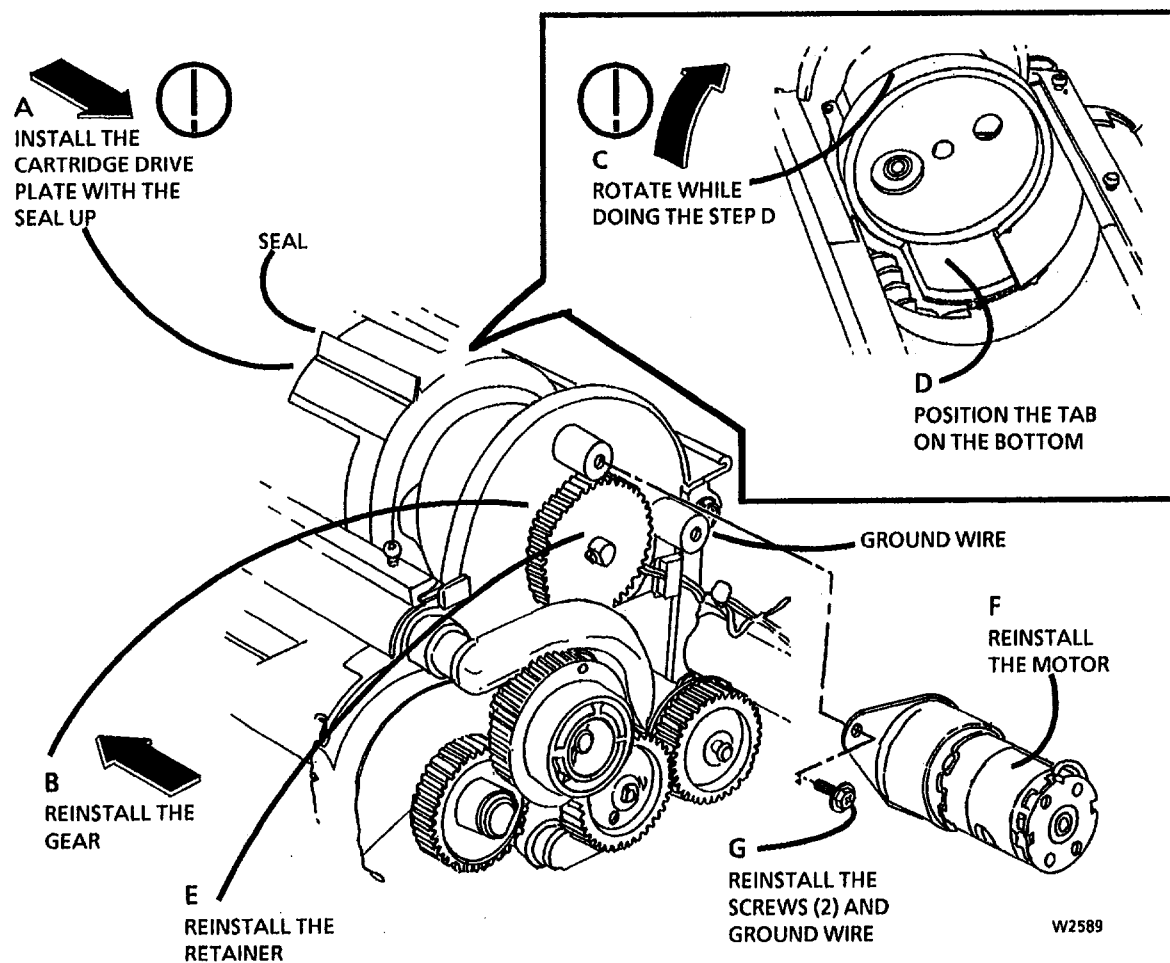

Figure 2. Install the Cartridge Drive Plate
3. (Figure 2): Reinstall the Cartridge Drive Plate.